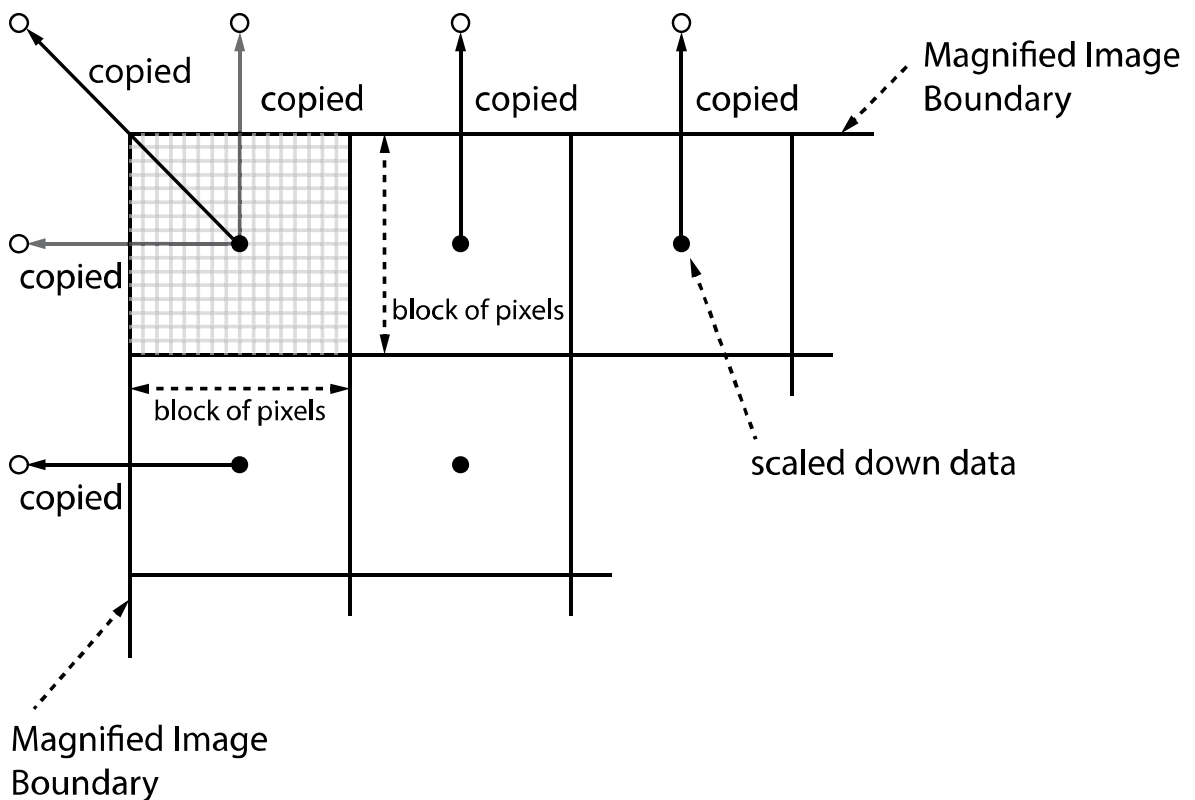

Figure 9-8 Bilinear Interpolated Magnification
4. Execute the Flat Field Data Save parameter to save the generated Flat Field data into the non-volatile memory. When the scaled-down Flat Field data are used for correction, they are expanded and applied with a Bilinear Interpolation as shown in the **Figure 9-8**.